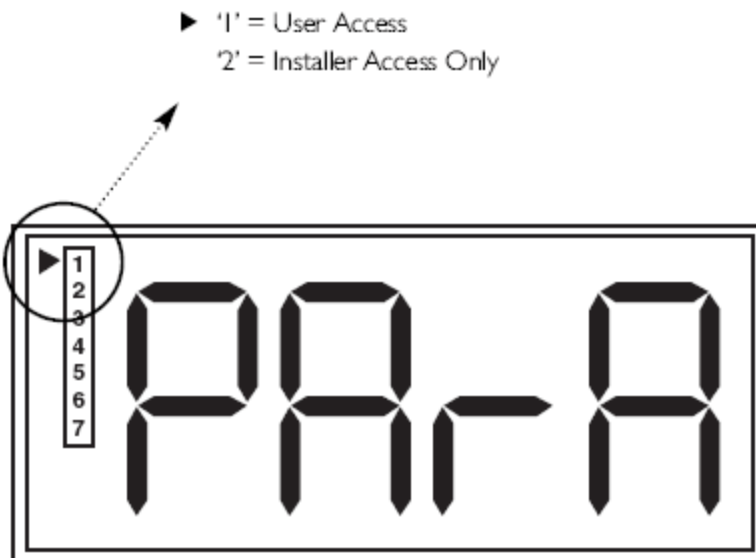

Fig. 4 User Access to System Parameters
2. To the left of the word 'PArA' there is a small arrow head and a list of numbers from 1 to 7 (Fig 4). Select the number '1' to access the user values using the '+' and '-' buttons.